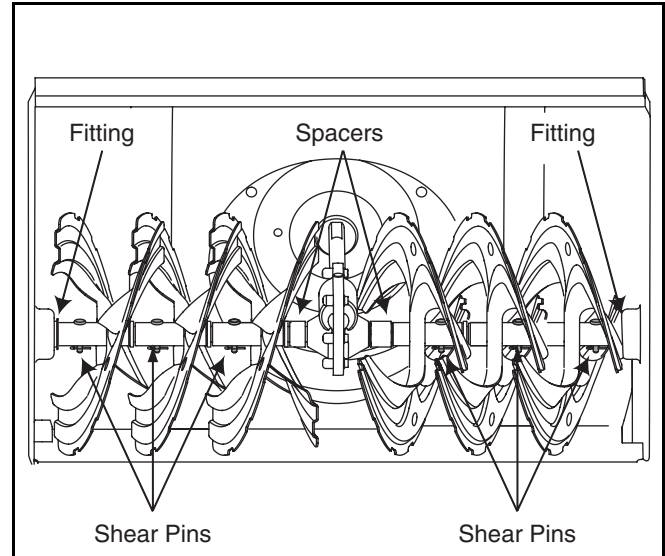

Figure 6
- At least once a season, remove the shear pins on auger shaft. Spray lubricant inside shaft, around the spacers. Also lubricate the grease fittings found at either end of the shaft. See Figure 6.
- The augers are secured to the spiral shaft with two shear pins and cotter pins. If the auger should strike a foreign object or ice jam, the snow thrower is designed so that the pins may shear. Refer to Figure 6.